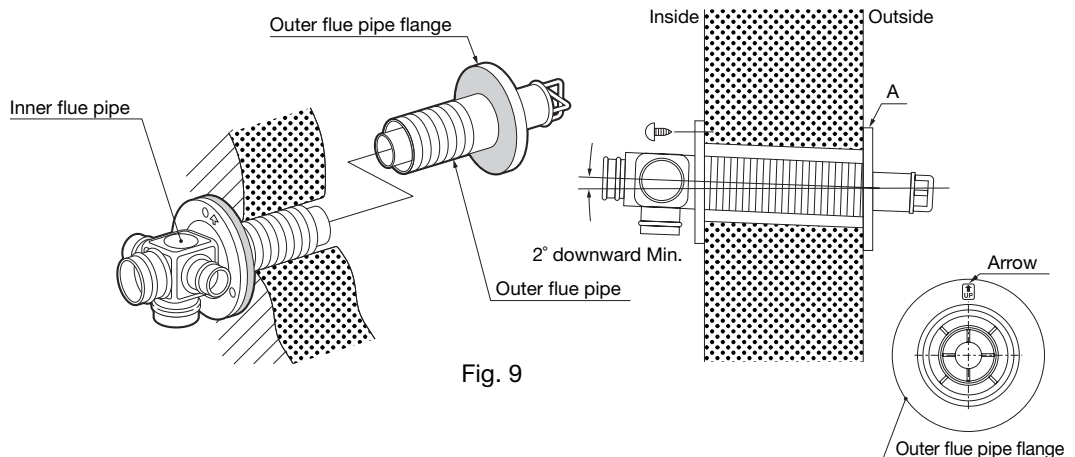

Fig. 9
c. From outside, insert the outer flue pipe through the hole. Secure the outer flue pipe to the wall by turning it clockwise. This locks the two halves together (See fig. 9).
**IMPORTANT:** Make sure the arrow on the outer flue pipe flange is pointing up. Make sure to secure the outer flue pipe well. (A-part shown in Fig. 9) Check inside flue pipe for insulation and remove if any.